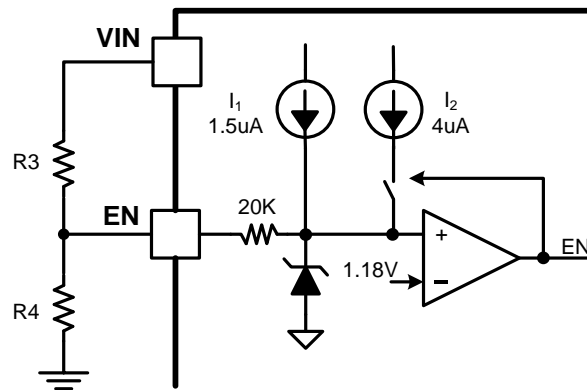

Figure 7. Adjustable VIN UVLO
An internal 1.5uA pull up current source connected from internal LDO power rail to EN pin guarantees that floating EN pin automatically enables the device. For the application requiring higher VIN UVLO voltage than the default setup, there is a 4uA hysteresis pull up current source on EN pin which configures the VIN UVLO voltage with an off-chip resistor divider R3 and R4, shown in Figure 7. The resistor divider R3 and R4 are calculated by equation (1) and (2).